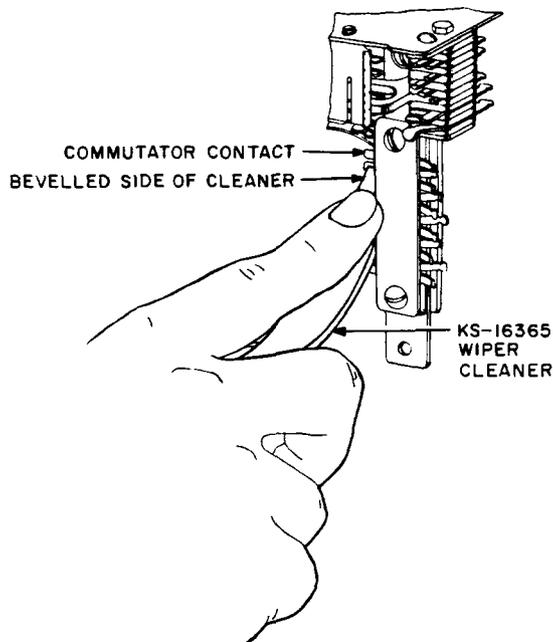
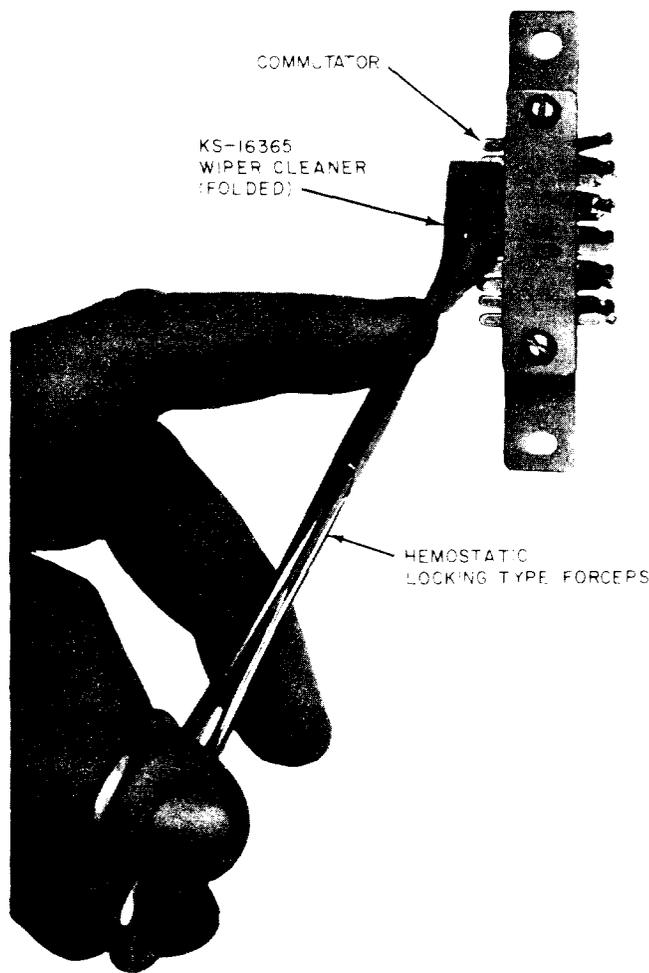

Fig. 3—Method of Nonabrasively Cleaning Commutator Contacts
Fig. 4—Alternate Method of Nonabrasively Cleaning Commutator Contacts
- (6) Flush and moisten the KS-16365 wiper cleaner as covered in (3 or 4). Clean commutator contacts as covered in (7) and commutator wipers as covered in (8).
- (7) **Commutator Contacts:** To clean commutator contacts, step the switch to the fourth rotary position. Holding the KS-16365 wiper cleaner with the beveled side away from the commutator clamping plate, press the cleaner against the commutator as shown in Fig. 3. Then rub the cleaner up and down over the commutator contacts the specified number of full double strokes. In order to avoid wetting the fingers with KS-16436 L1 or KS-16436 L2 washing fluid, the KS-16365 wiper cleaner may be folded and held by means of a hemostatic type forceps as shown in Fig. 4.